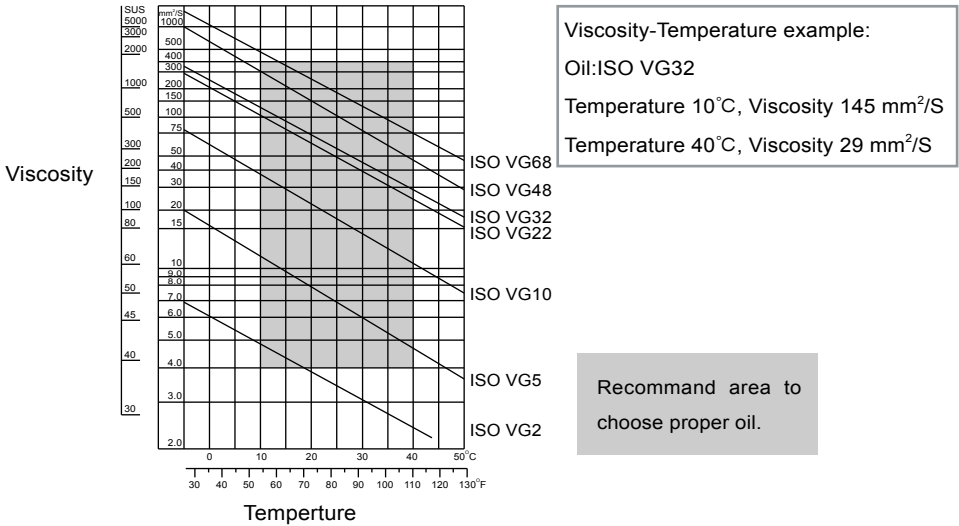

Figure 6
- (1) Only use mineral base hydraulic and lubricant oil, strictly prohibited to use water, ethylene glycol...etc. (recommend to use #32 and #68 oil).
- (2) If the oil viscosity is too high or too low, it might make the pump defect or reduce its efficiency.
- (3) Oil viscosity-temperature as following for reference. (See Figure 6)